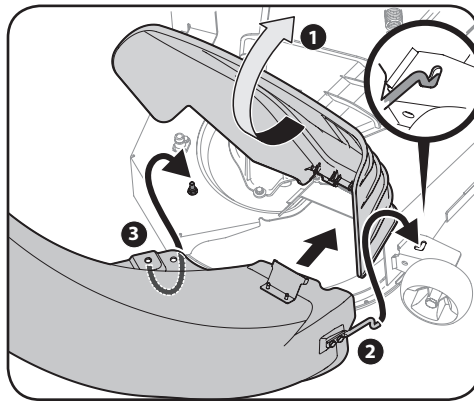

Figure 4-24
2. Raise the chute deflector (1 in Figure 4-24) on the deck and hold it while you position the discharge chute over the chute opening.
3. Insert the end of the discharge chute elbow (2) into the hole provided in the deck wheel mount as shown in the inset of Figure 4-24.
4. Pivot the discharge chute rearward until the hole in the discharge chute elbow aligns with the pin on the deck. Move the discharge elbow down onto that pin as shown in 3 of Figure 4-24.